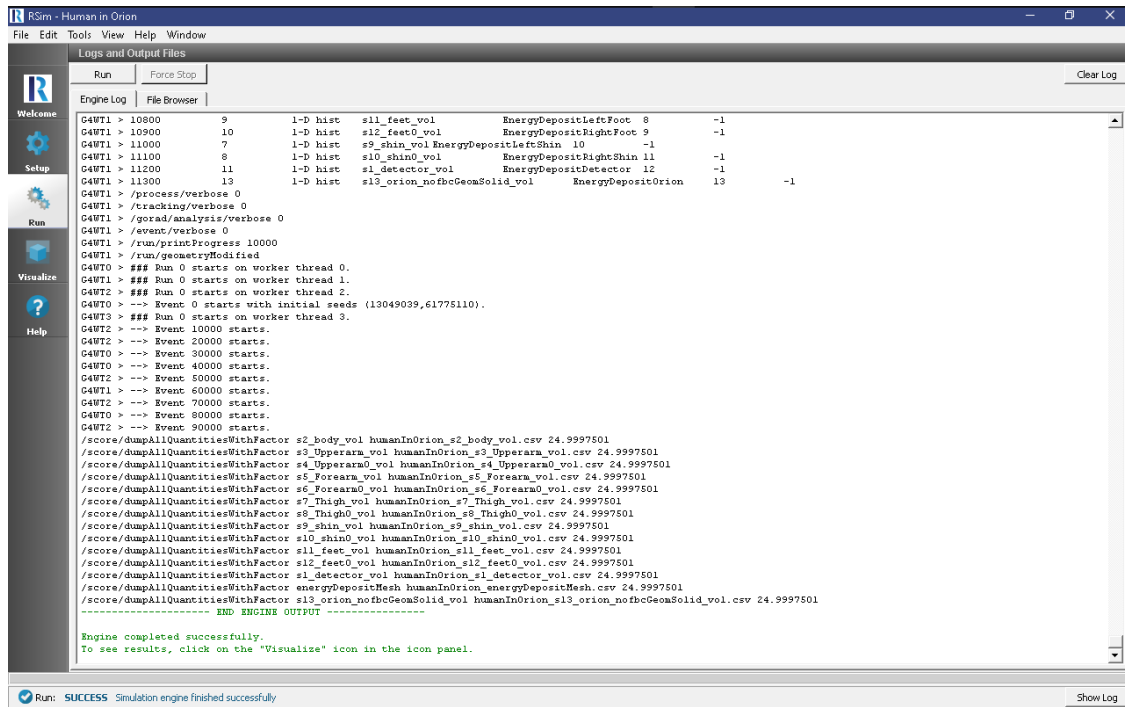

Fig. 2.14: The Run Window at the end of execution.
- To run the file, click on the *Run* button in the upper left corner of the *Logs and Output Files* pane. You will see the output of the run in the right pane. The run has completed when you see the output, “Engine completed successfully.” This is shown in Fig. 2.14.